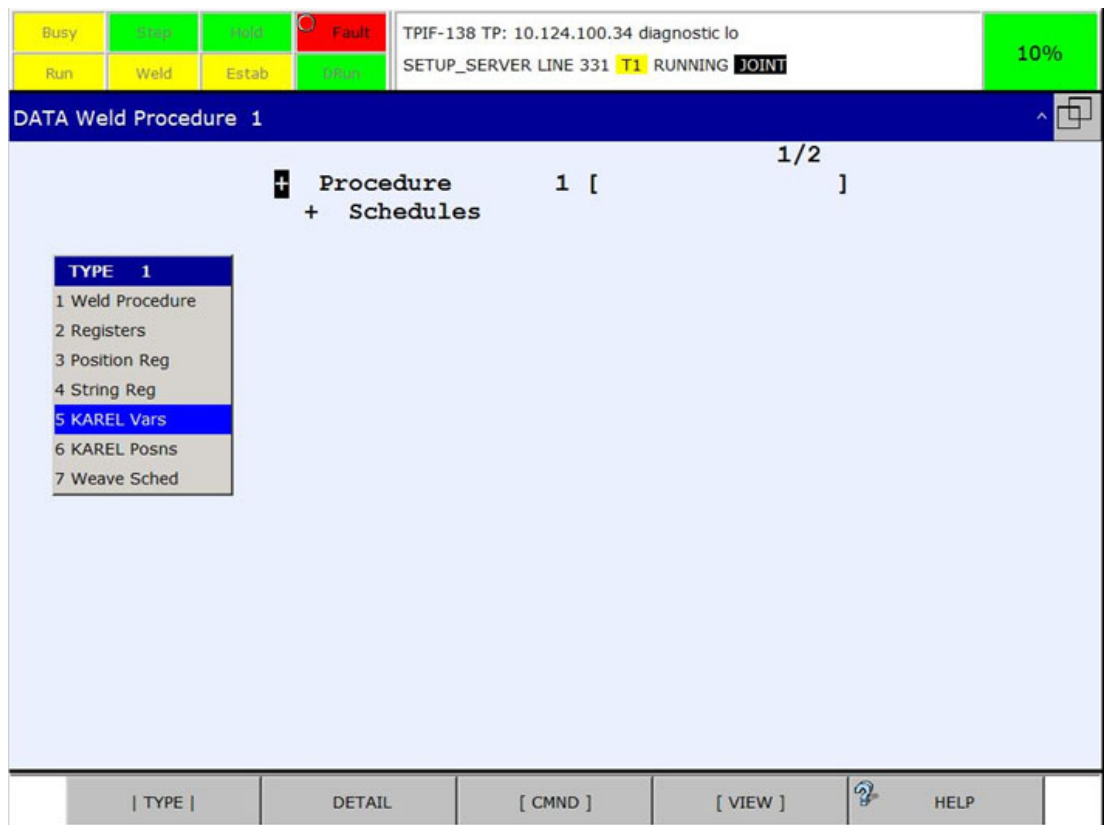

Figure 205: Data - KAREL Vars Menu
8. Select "TYPE" and click "KAREL Vars" to open the KAREL variables. See Figure 205 (below).